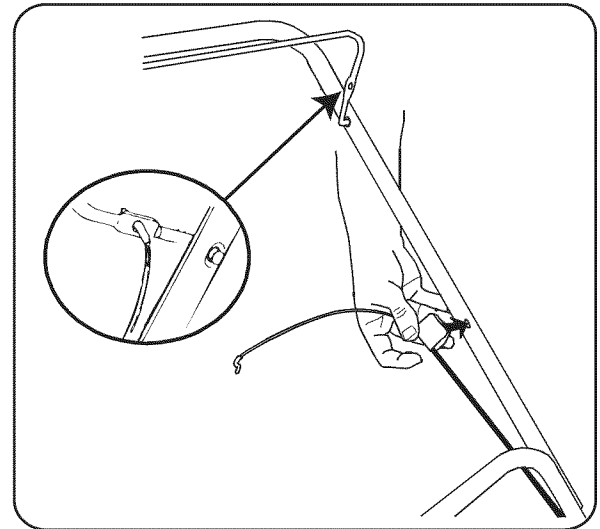

Figure 6
- The brake cable is attached to the engine, and has a “Z” fitting on the loose end. Route the brake cable under the lower handle. Snap the plastic fitting into the hole on the inside of the upper handle as shown in Figure 6.
- Hook the “Z” end of the brake cable into the hole in the blade control handle from the outside to the inside as shown in Figure 6, inset.